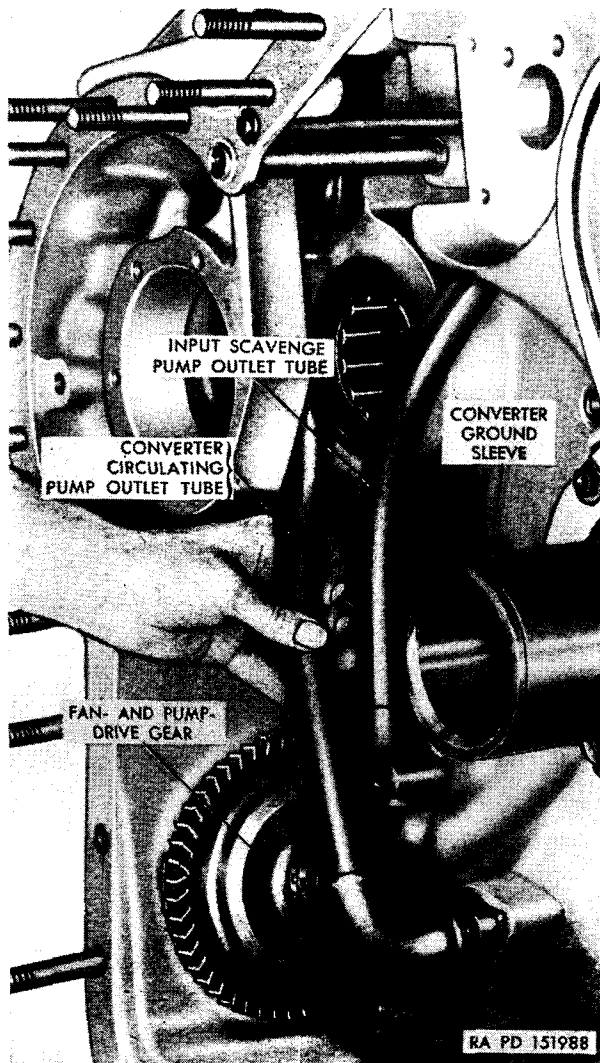
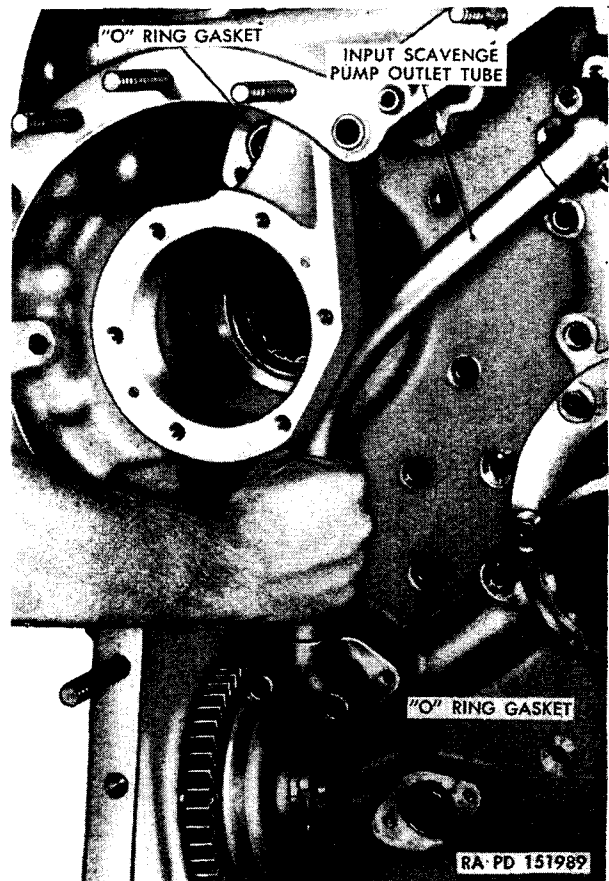

Figure 249. Removing or installing converter-circulating-pump-outlet tube.
Figure 250. Removing or installing input-scamge-pump-outlet tube.
h. OUTLET TUBES. Using a $\frac{1}{2}$ -inch socket, remove four bolts from the converter, circulating-pump-outlet tube and remove it from the housing (fig. 249). Remove four bolts and washers from the input-ump-pump-outlet tube and remove it from the housing (fig. 250).